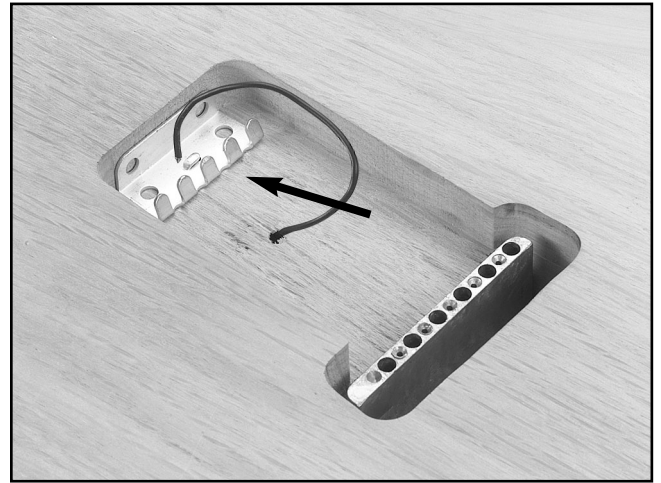

Figure 22. Spring hanger placement.
8. Flip the guitar body over and place the spring hanger in the cavity as shown in **Figure 22**.